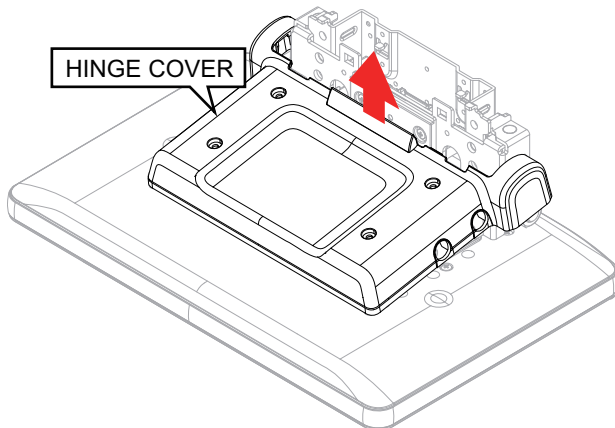

Fig.2
- (2) Lift the bottom of the hinge cover in the direction of the arrow to remove it. (See Fig.2)